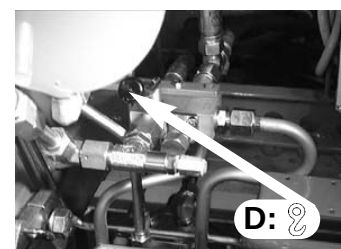

fig. 20a
- Lever **D** Deviator crane - outriggers (E/S). Fig. 20a-20b
- Unfold the crane into a working condition, positioning lever **D** of oil diverter crane-outriggers ( - **E/S**) on  **E/S**. Fig. 20a